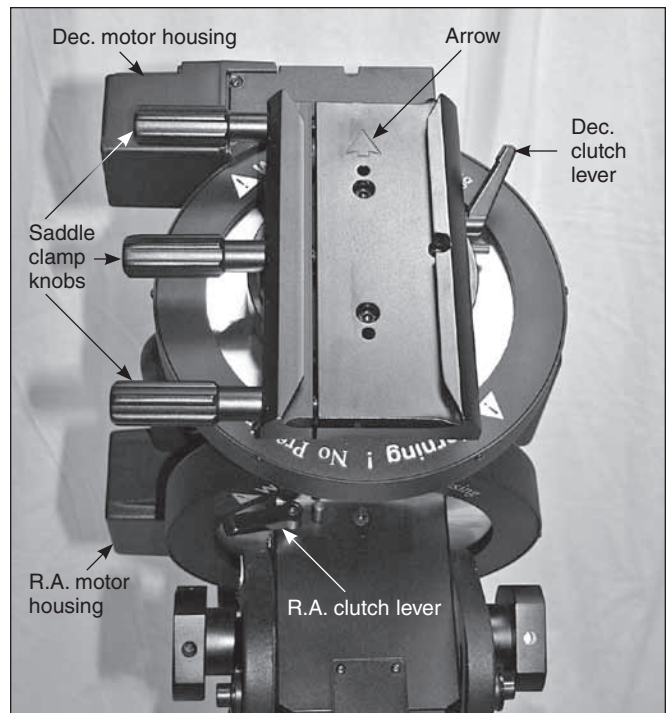

Figure 15. When installing the telescope, the arrow on the saddle should be pointing forward or to the right.
2. Release the Dec. clutch lever and rotate the saddle until the arrow on it points either forward or to the right, depending on your preference. It's shown pointing forward in **Figure 15**. Then retighten the Dec. clutch lever.
1. Keeping one hand on the telescope optical tube, loosen the R.A. clutch lever (**Figure 15**). Make sure the Dec. clutch lever is tightened, for now. The telescope should now be able to rotate freely about the R.A. axis. Rotate it until the counterweight shaft is parallel to the ground (i.e., horizontal).